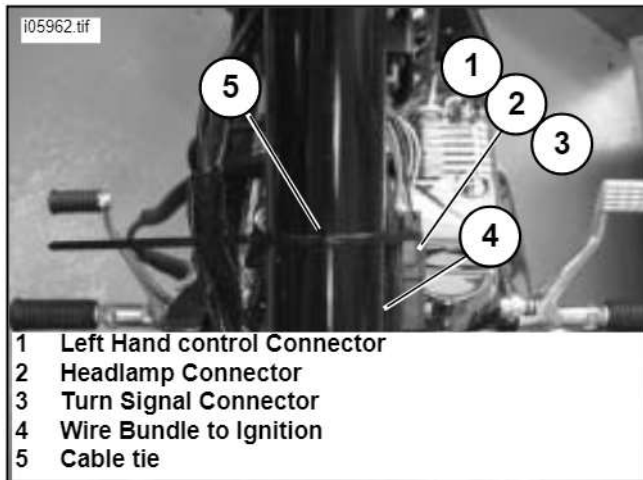

Figure 1. (Securing Right Hand Control Connector W/Cable Tie)
3. See Figure 1. Remove a cable tie from the kit and secure the ignition wire bundle and one of the hand control connectors, head lamp connector, and the front turn signal connector to the right side of the frame as shown. Wrap the cable tie around the hand control connector and tight to the right side of the backbone frame.